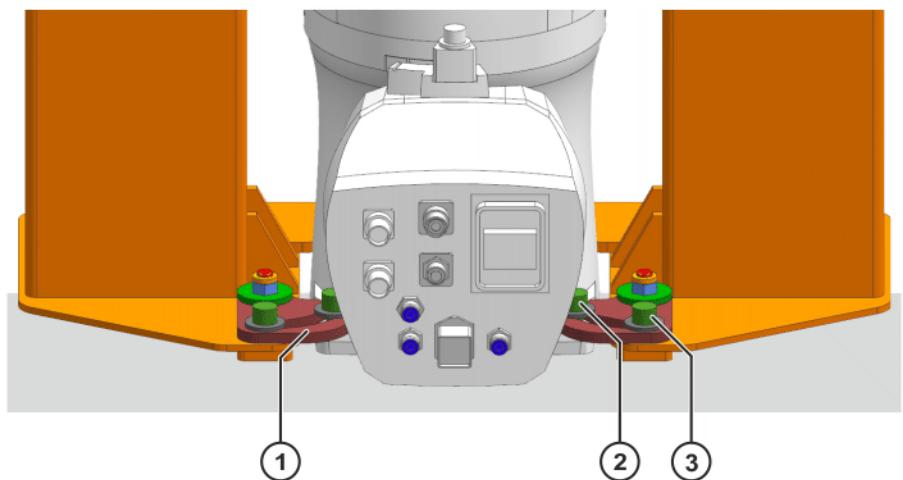

Fig. 8-10: Positioning and fastening the swivel holders
6. Position swivel holders on base frame (>>> Fig. 8-10).